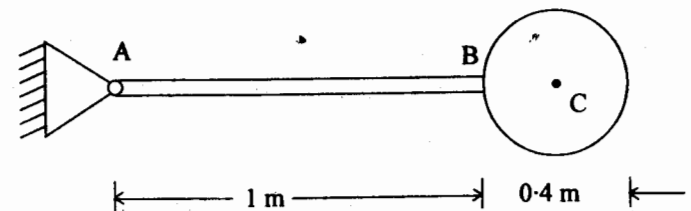

Fig. 3
- (d) A cylinder weighing 500 N is welded to a 1 m long uniform bar of 200 N as shown in Fig. 3. Determine the acceleration with which the assembly will rotate about point 'A', if released from rest in horizontal position. Determine the reaction at 'A' at this instant.